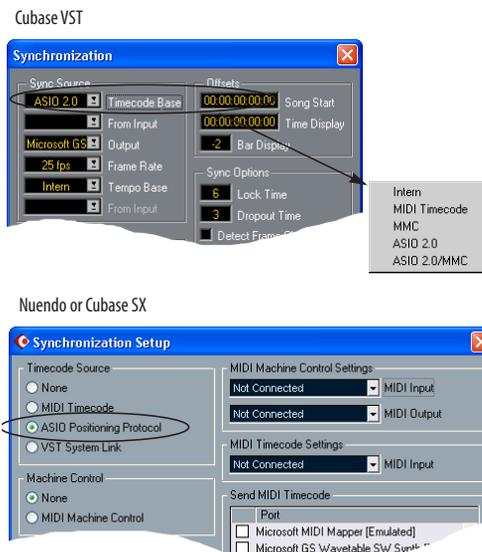

Figure 7-7: Setting up sample-accurate sync via ASIO 2.
- 3 If you are *not* using an MMC-compatible synchronizer (such as a MOTU MIDI Timepiece AV, Digital Timepiece or Alesis BRC), choose the settings shown above in Figure 7-7 that applies to you. In this scenario, transport control is handled by the ADAT (or other sample-accurate sync source).